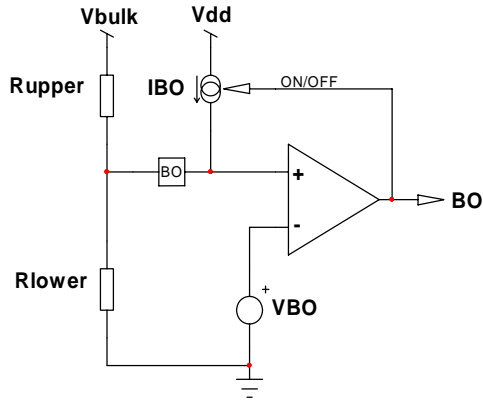

Figure 43. The internal brown-out configuration with an offset current source
circuitry, depicted by figure 43, offers a way to observe the high-voltage (HV) rail. A resistive divider made of R_{upper} and R_{lower} , brings a portion of the HV rail on pin 5. Below the turn-on level, the $27\mu\text{A}$ current source IBO is off. Therefore, the turn-on level solely depends on the division ratio brought by the resistive divider.